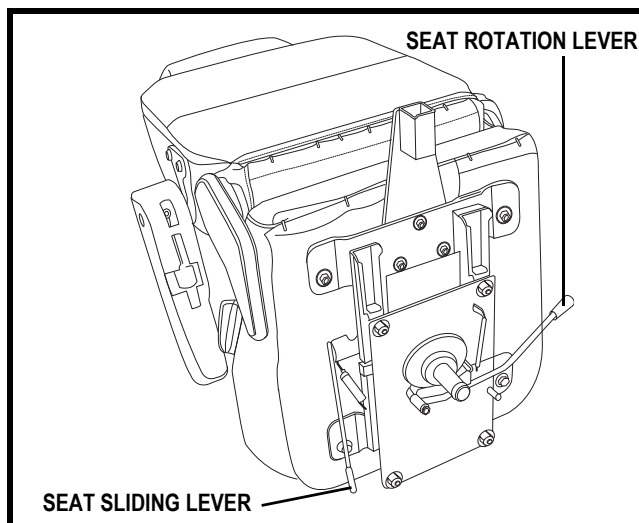

Figure 11. Seat Adjustment
1. Push forward on the seat rotation lever to disengage the seat. See figure 11.
You can reposition the scooter's seat forward or rearward to adjust the distance between the seat and the tiller. See figure 11.
You can change the seat height to one of three positions in 1 in. (2.5 cm) increments. See figure 11.